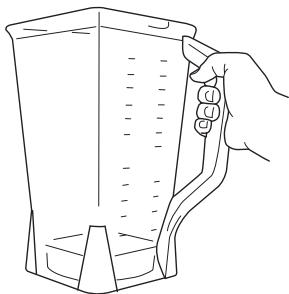

Fig. 1
- 2 Lower the pitcher onto the motor base. (**Fig. 1**)